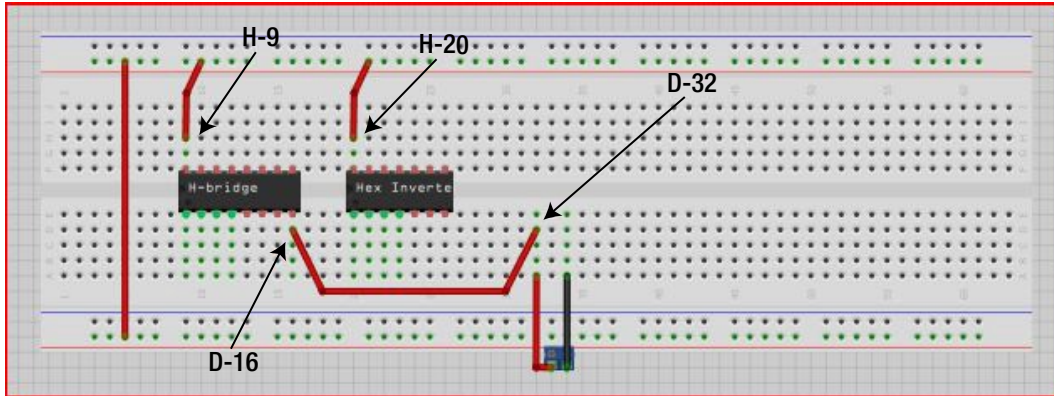

Figure 15-6. Supply power: +5V to the circuit and 9V to the H-bridge
- Finally, connect the power rail on one side of the breadboard to the other power rail on the opposite side of the breadboard by inserting a longer jumper wire into two available holes, one near each of the red lines. Figure 15-6 illustrates this process.